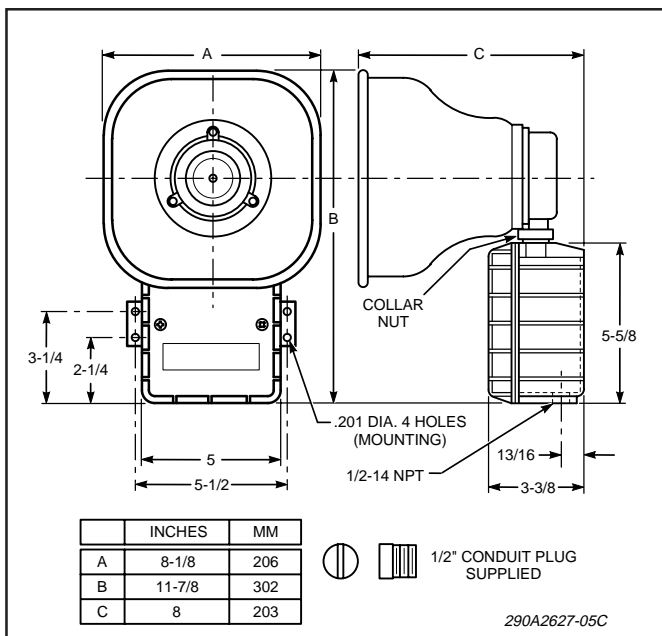

Figure 1. Speaker Dimensions.
B. Mounting Arrangements (see figure 1).
c. Using the mounting holes (four (4) in external mounting bracket) as a template, scribe drill position marks on the mounting surface. See figure 1 for mounting hole locations and dimensions.
f. Reposition speaker projector if necessary to obtain desired sound coverage. Loosen collar nut (see figure 1) and move projector to desired position.